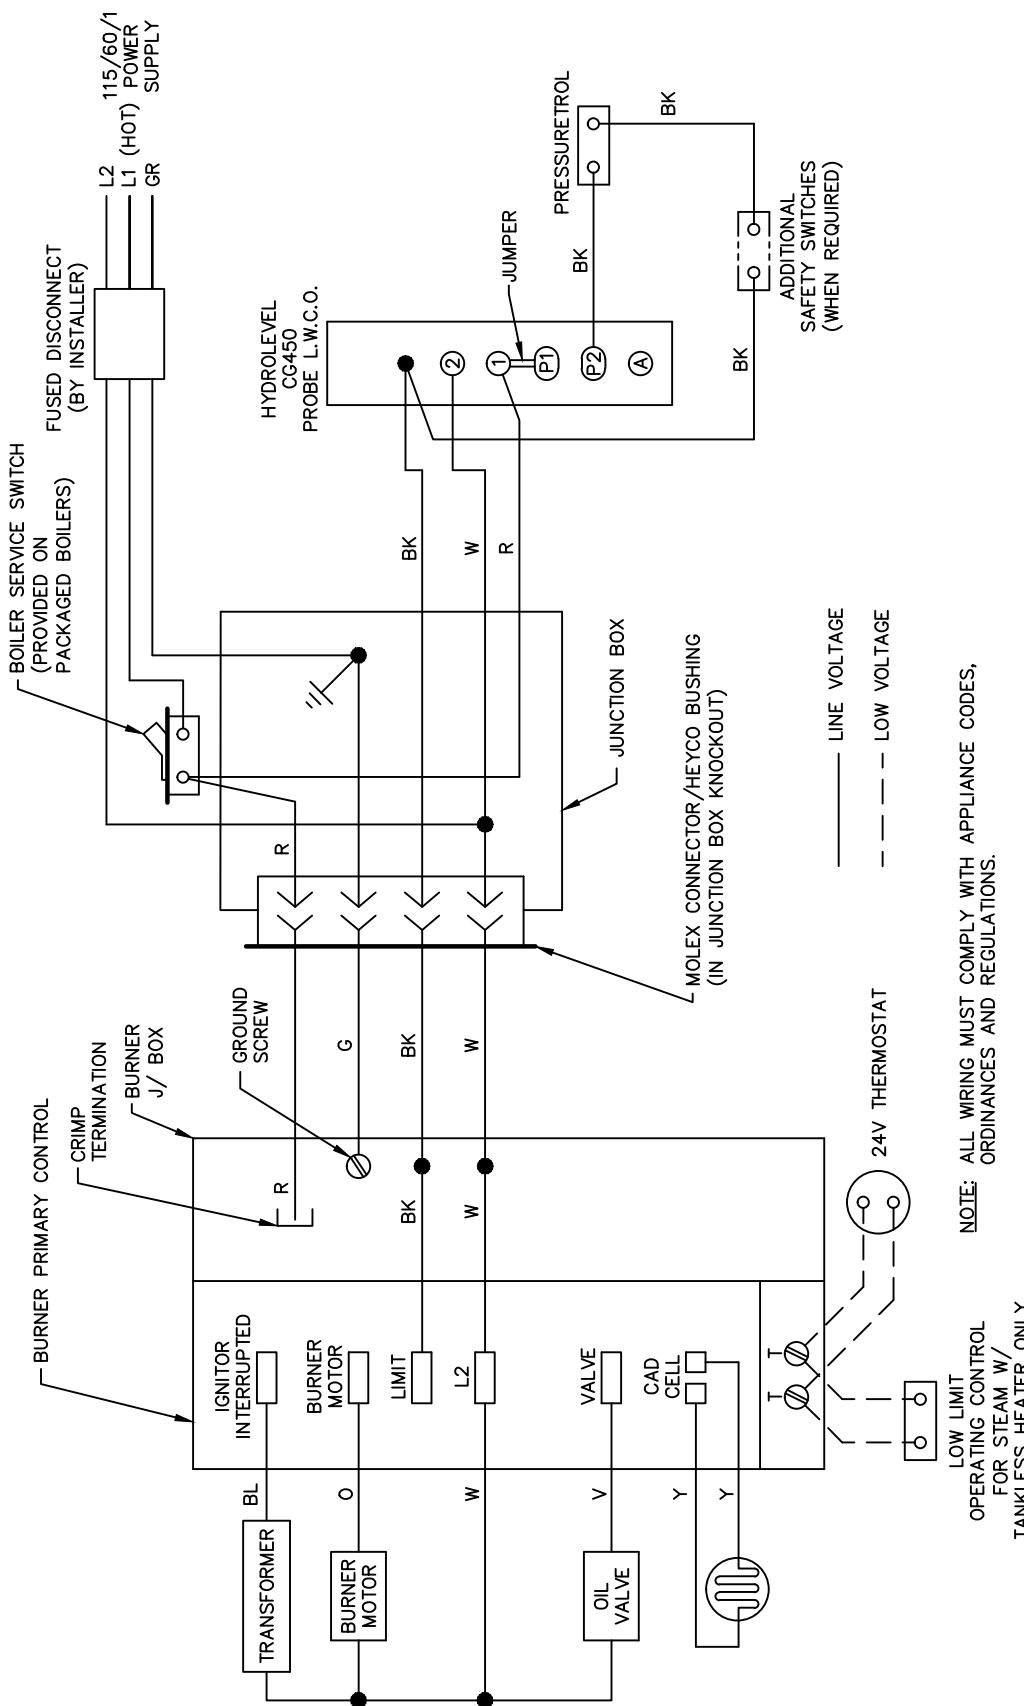

Figure 4.2: Steam with Probe Low Water Cut-off
3. Install control well for low limit operating control into 3/4 NPT control tapping on tankless heater plate. Install low limit operating control on control well. Wire low limit control to oil burner per Figure 4.2.
4. See Wiring Diagram Figure 4.2 for Steam Boilers with Probe LWCO